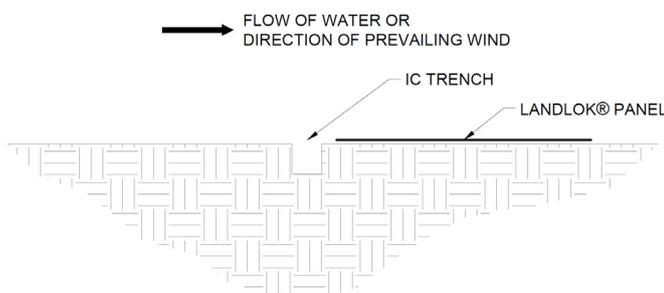
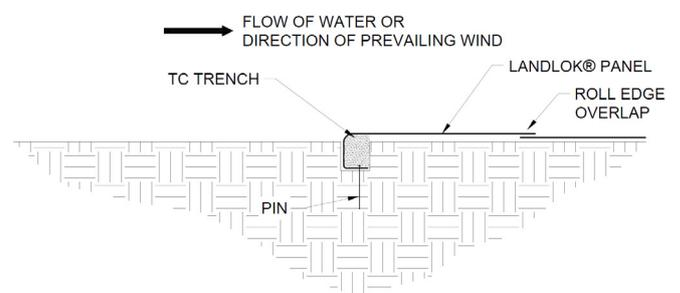

Figure 4: Initial Channel (IC) Trench Alignment
Figure 5: Initial Channel (IC) Trench Placement
2. Lay the TRM panel on the downstream side of the IC trench (Figure 4). Place the panel edge in the IC trench, ensuring full coverage along the bottom of the entire IC trench with the **PROPEX** Landlok TRM (Figure 5).
3. Secure the TRM with pins in the IC trench (Figure 5). Pins may be either washer pins or wire staples.
4. Backfill and compact the IC trench (Figure 5).